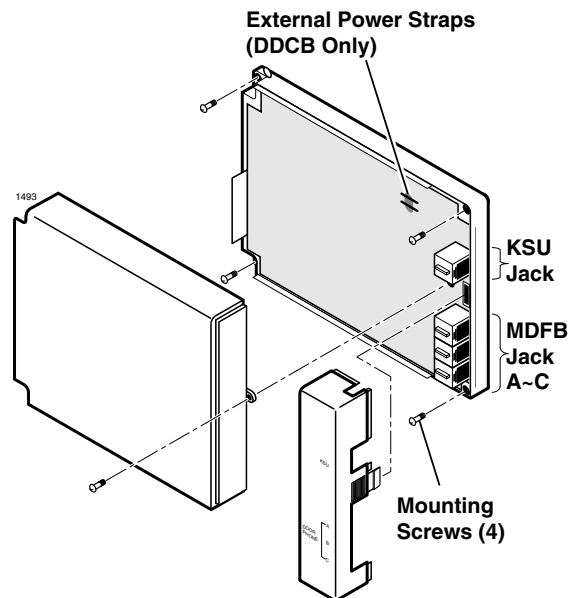

Figure 12-14 Door Phone (DDCB) Installation
1. Locate the two mounting holes on the right-hand side on the DDCB (see Figure 12-14).